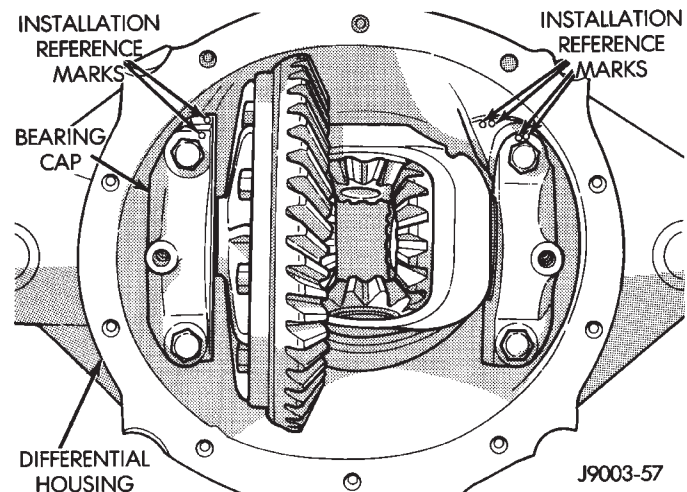

Fig. 11 Housing & Caps Marked For Installation Reference
(5) Mark the differential housing and differential bearing caps for installation reference (Fig. 11).